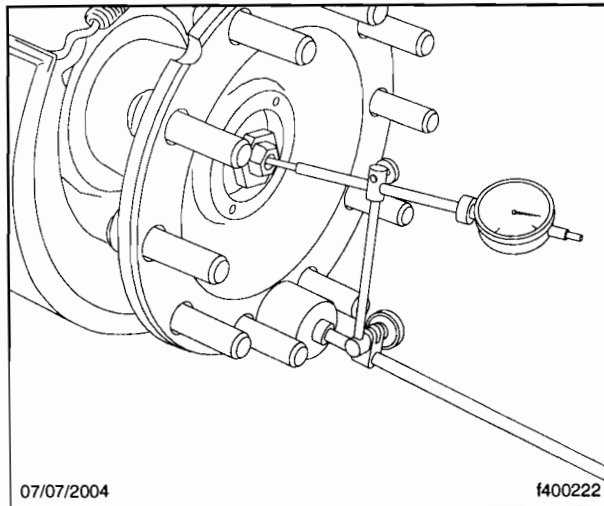

Fig. 2, Using the Dial Indicator
- 23.5 With the jam nut installed and tightened, *attach a dial indicator to the hub* and set the point of the indicator in line with the end of the axle spindle. See **Fig. 2**.